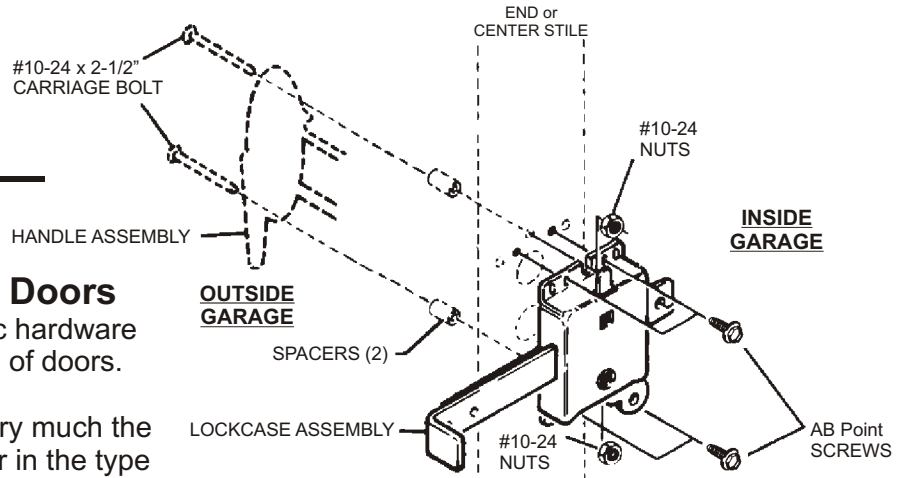

FIGURE 4
- (A) Handle assembly positioned as shown in Figure 4 where lockcase bar will have to be moved to right (locked).
- (B) Handle assembly mounted with handle held up in unlocked position. NOTE: Masking tape may be helpful to hold handle, screws and lock escutcheon to section while attaching lockcase.